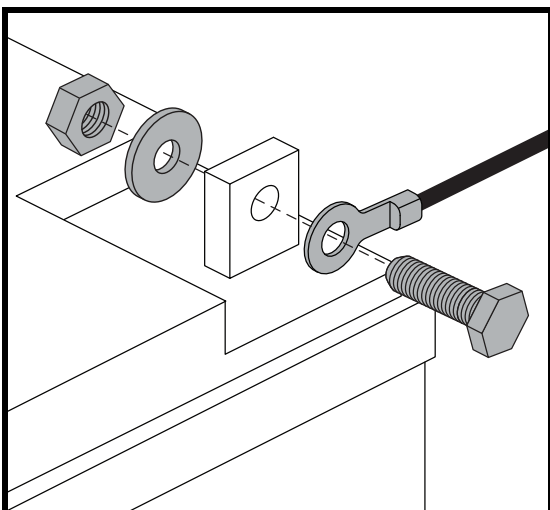

Figure 11. Battery Terminal Hardware
4. Disconnect the battery cables from the battery terminals by sliding back the terminal boots and unscrewing the nut from the bolt. See figure 11.